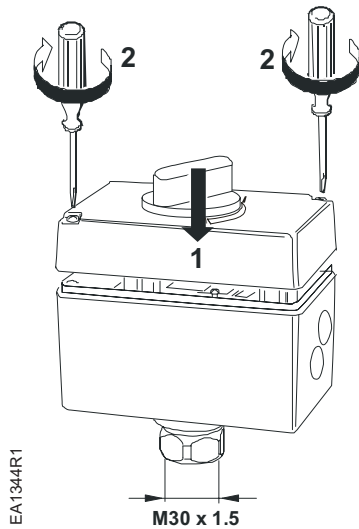

Figure 8.
8. Fasten the cover with the screws. See Figure 8.